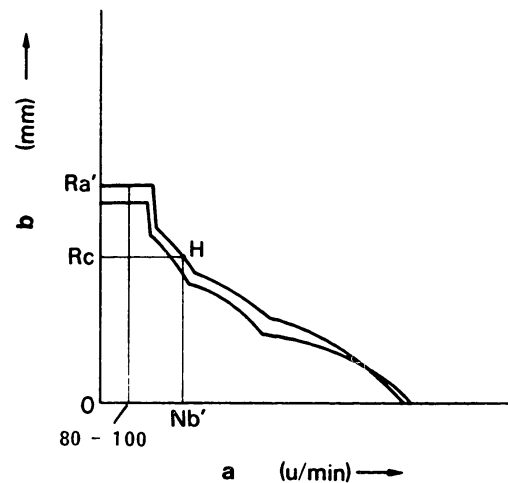

Fig. 148
- 2) Further decrease the pump speed to 80 - 100 rpm, and ensure the control rack is positioned at  $Ra'$  mm. (Fig. 148)